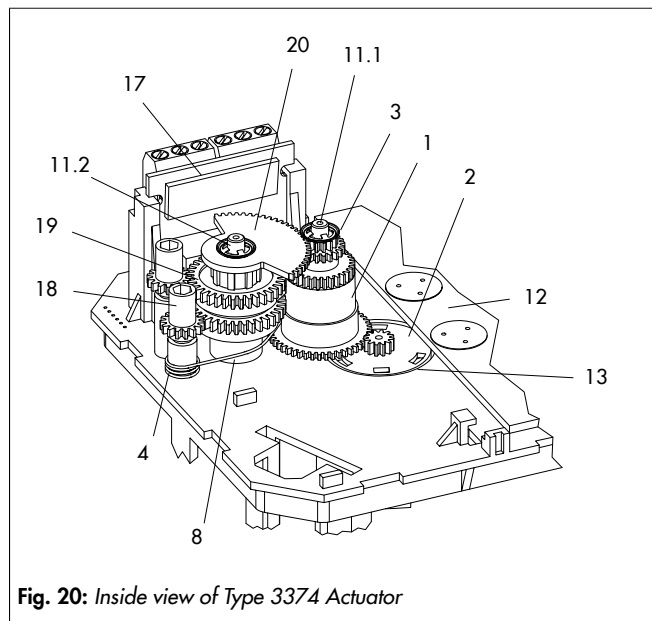
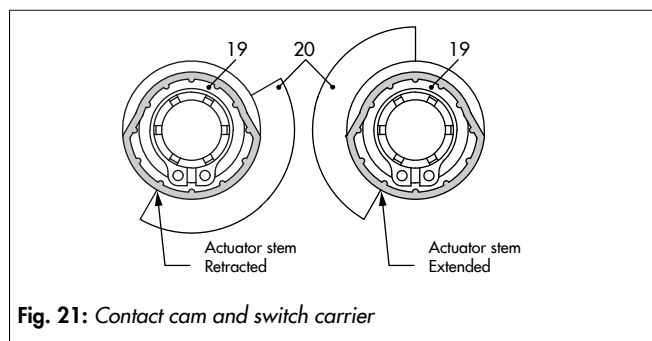

Fig. 20: Inside view of Type 3374 Actuator
Fig. 21: Contact cam and switch carrier
The contact cams (19) are ready-mounted to the cam holder (20) and the retaining rings (9) to form the contact cam unit (21) (see Fig. 21).
4. Slide adjustment gears (18) onto their spindles and fasten with one screw (16) each. Check whether the adjustment gears can be turned easily. If not, slightly loosen its screw again.
5. Turn contact cams (19) on the cam holder (20) as illustrated in Fig. 21 corresponding with the position of the actuator stem.
6. Slide the spacer (8) onto the spindle (1.2). Make sure that the long wire of the tension spring rests on the spacer and on the intermediate gear.
7. Slide the contact cam unit (20) onto the spindle corresponding with the position of the actuator stem as illustrated in Fig. 20. Make sure that the outermost cog of the contact cam unit engages in the gearwheel of the intermediate gear (1). In addition, the adjustment gears (18) must engage properly in the corresponding gears of the contact cam unit (20).